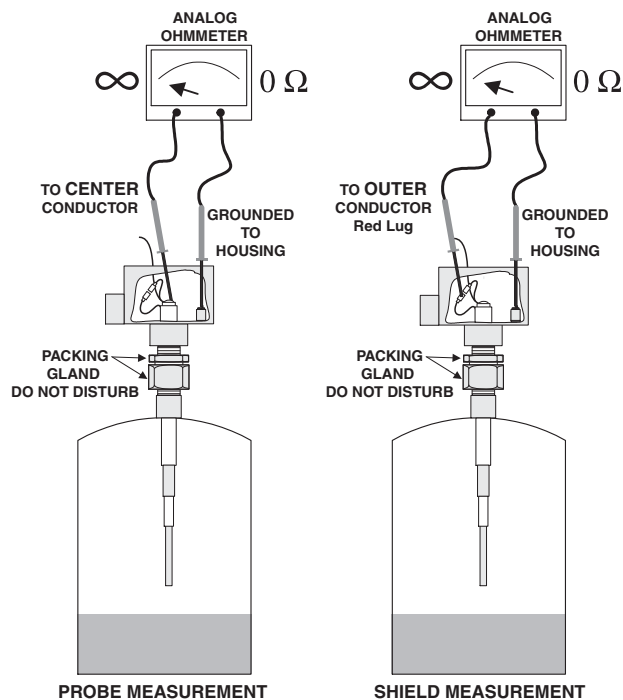

Figure 5-1
2. Use an analog ohmmeter¹ that is set to the R x 1K ohm scale. Measure the resistances between each pair of sensing element connections. **See Figure 5-1.**